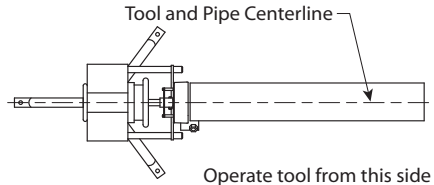

FIGURE 2 - TRACKING ANGLE
- c. Position the centerline of the pipe stand along the centerline of the tool. Refer to Figure 2 above.